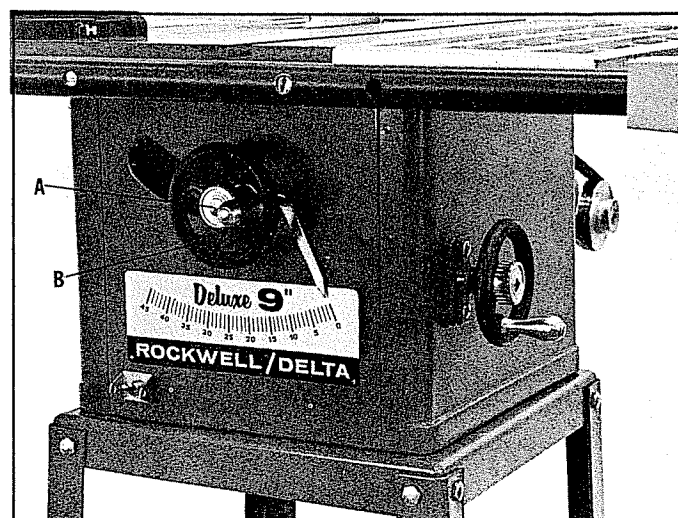

Fig. 13.
To raise or lower the saw blade, loosen lock knob (A) Fig. 13, and turn raising handwheel (B). With exception of hollow ground blades, the blade should be raised 1/8" to 1/4" above the top surface of the material being cut. With hollow ground blades the blade should be raised to the maximum to provide chip clearance. The blade can be raised to a maximum of 2 3/4".